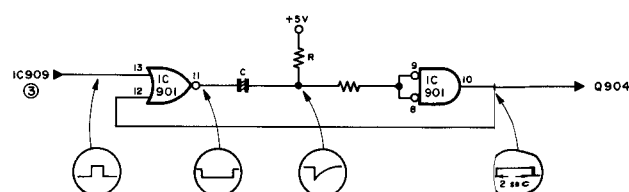

Figure 47–3
6.6.5 D.D. Motor On/Off Circuit (Refer to Figure 47–4)